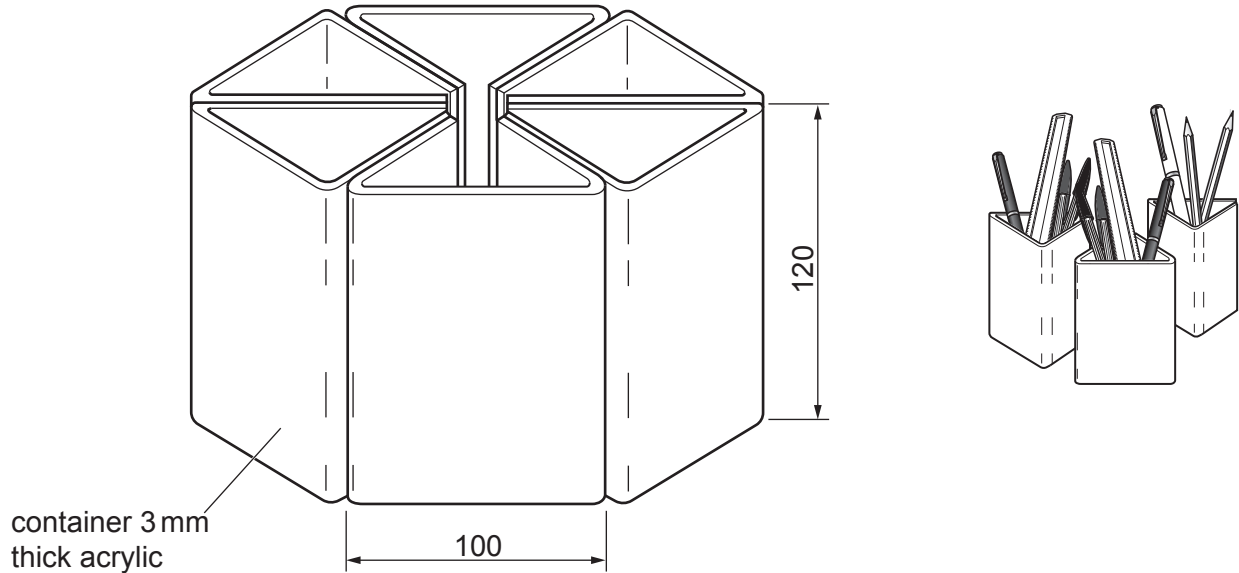

Fig. 11.1
- 11 Fig. 11.1 shows an incomplete design for a table top organiser made from acrylic. The organiser is made up of six identical containers that will be joined together.